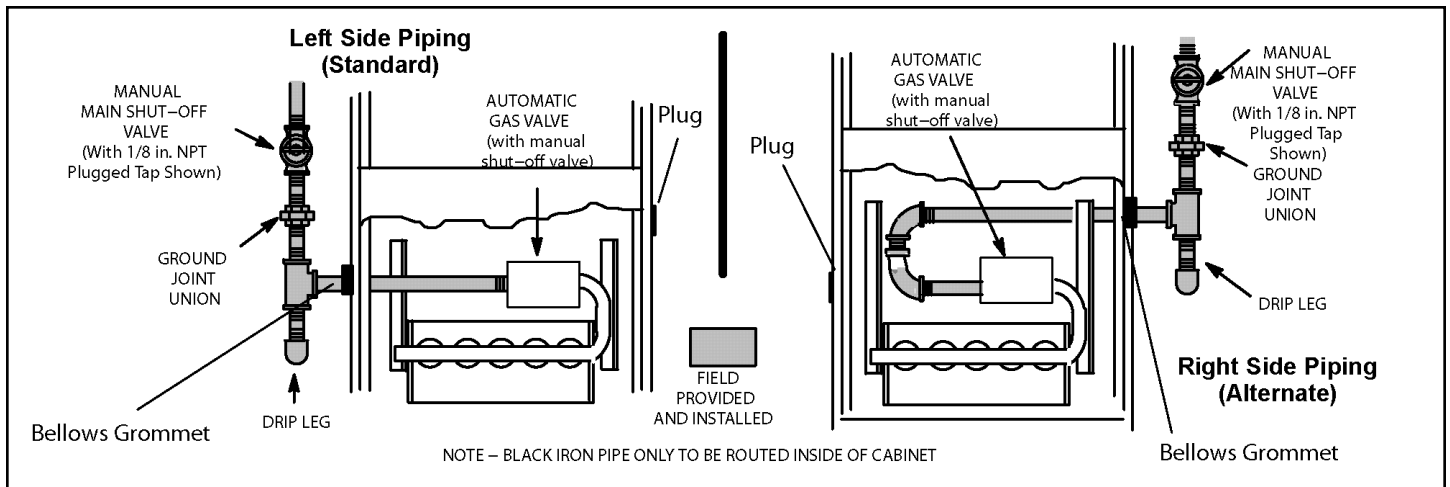

Figure 54.
1. Gas piping may be routed into the unit through either the left or right hand side. Supply piping enters into the gas valve from the side of the valve as shown in Figure 54. Move bellows grommet to side of the cabinet which the gas line enters. Ensure opposite gas line entrance is plugged with supplied plug.
3. Gas piping must not run in or through air ducts, clothes chutes, chimneys or gas vents, dumb waiters or elevator shafts. Center gas line through piping hole. Gas line should not touch side of unit. See Figure 54.